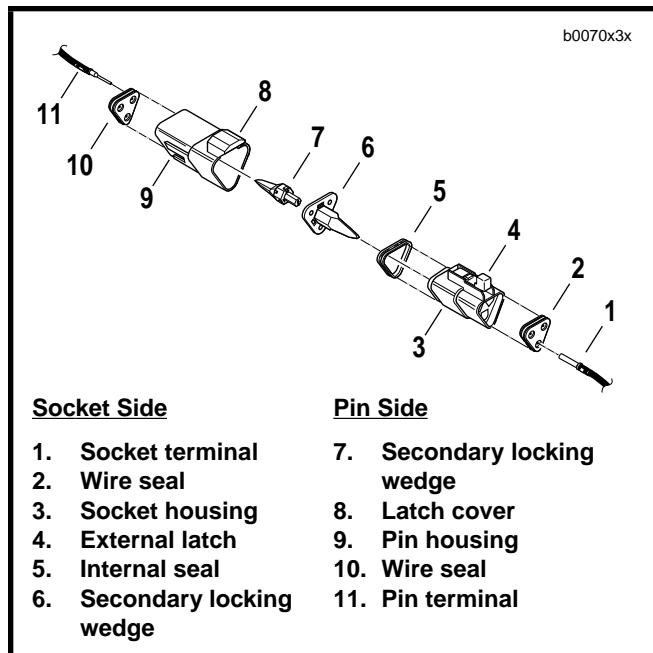

Figure 7-47. 3-Pin Connector
1. See Figure 7-47. Remove the secondary locking wedge (6). Insert the blade of a small screwdriver between the socket housing and locking wedge inline with the groove (inline with the pin holes if the groove is absent). Turn the screwdriver 90° to pop the wedge up.
2. Gently depress terminal latches inside socket housing (3) and back out socket terminals (1) through holes in rear wire seal (2).
3. Fit rear wire seal (2) into back of socket housing, if removed. Grasp socket terminal approximately 1 in. (25.4 mm) behind the contact barrel. Gently push sockets through holes in wire seal into their respective chambers. Feed socket into chamber until it "clicks" in place. Verify that socket will not back out of chamber; a slight tug on the wire will confirm that it is properly locked in place.
4. Install internal seal (5) on lip of socket housing, if removed. Insert tapered end of secondary locking wedge (6) into socket housing and press down until it snaps in place. The wedge fits into the center groove within the socket housing and holds the terminal latches tightly closed.
1. See Figure 7-47. Remove the secondary locking wedge (7). Use the hooked end of a stiff piece of mechanic's wire or a needle nose pliers, whichever is most suitable.
2. Gently depress terminal latches inside pin housing (9) and back out pin terminals (11) through holes in wire seal (10).
3. Fit wire seal (10) into back of pin housing (9). Grasp crimped pin approximately 1 in. (25.4 mm) behind the contact barrel. Gently push pins through holes in wire seal into their respective numbered locations. Feed pin into chamber until it "clicks" in place. Verify that pin will not back out of chamber; a slight tug on the wire will confirm that it is properly locked in place.
4. Insert tapered end of secondary locking wedge (7) into pin housing (9) and press down until it snaps in place. The wedge fits in the center groove within the pin housing and holds the terminal latches tightly closed.